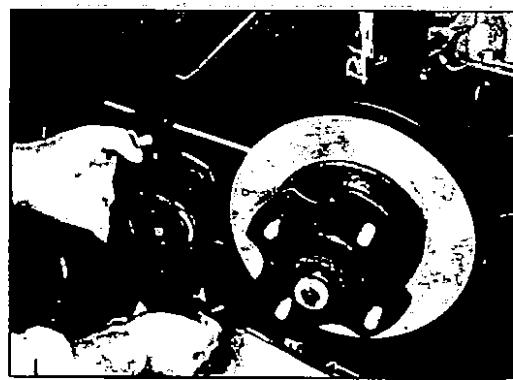

Fig. L.18 Removing the brake calliper.
3. Remove the bolts securing the brake calliper to the knuckle flange and remove the calliper assembly (Fig.L.18).